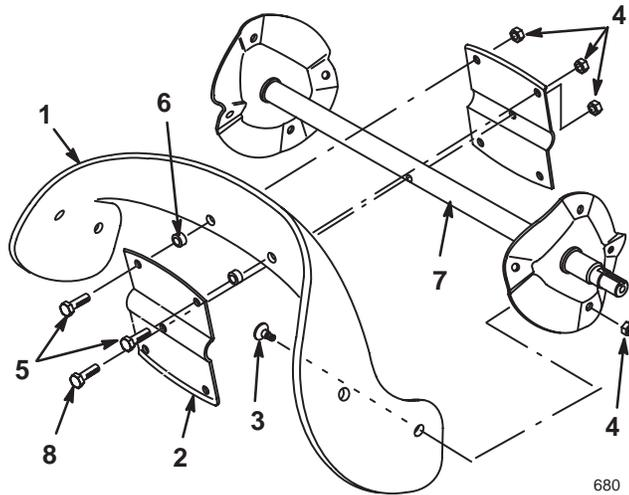

Figure 21
1. Remove the 4 torx screws and the 4 locknuts that secure the outer edges of the rotor blade to the rotor assembly (Fig. 21).
2. Remove the 2 hex-head bolts and 2 locknuts that secure the center of the blade to the rotor halves (Fig. 21).
3. Loosen the long hex-head bolt that secures the rotor halves to the auger shaft assembly (Fig. 21).
4. Slide the rotor blade out from between the rotor halves (Fig. 21).